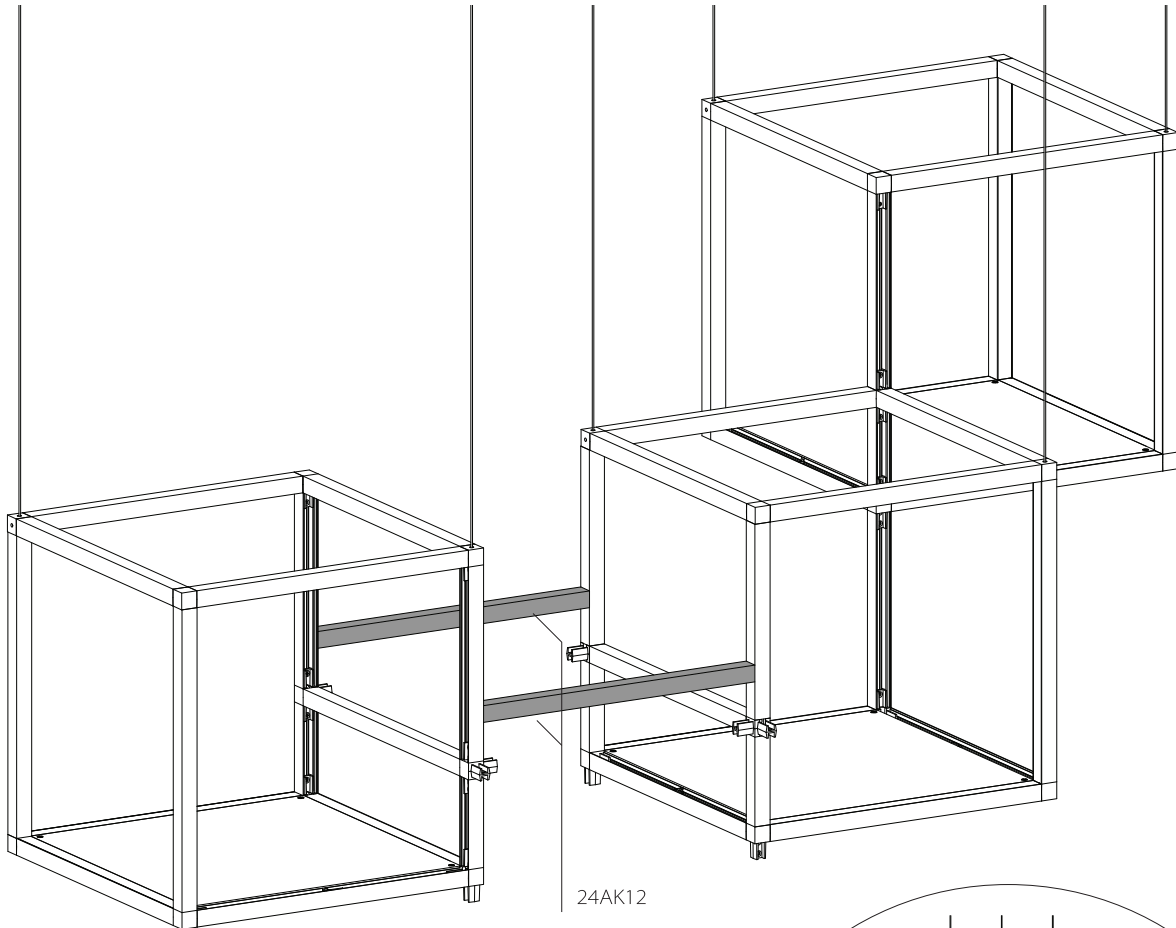

Fig. 7a
- 5a. Install (2x) 24AK12 to bridge 24KK1 LPCE assembly to 24KK1 LPBA assembly as shown in Fig. 7a.